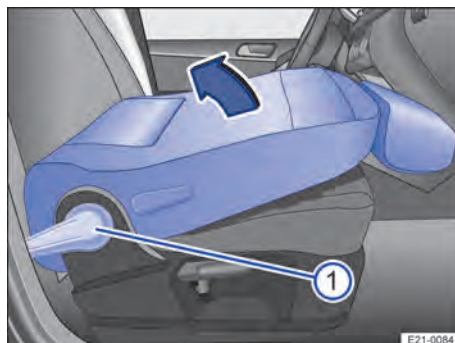

Fig. 62 Front passenger seat: folding the backrest backwards.
2. To fold it back, press the lever → Fig. 62 ① down to release the front passenger seat backrest again.
3. Fold back the front passenger seat backrest in the direction of the arrow → Fig. 62 until it reaches the upright position.